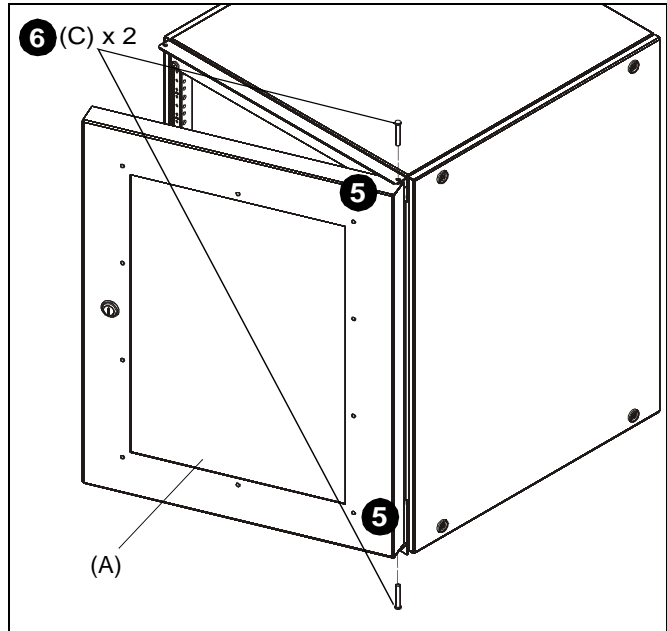

Figure 2
5. Position GRFWSD door (A) in between door braces and line up holes on top and bottom of door with holes on door braces. (See Figure 2)
6. Install two clevis pins (C) through aligned holes in GRFWSD door (A) and door braces (D). (See Figure 2)